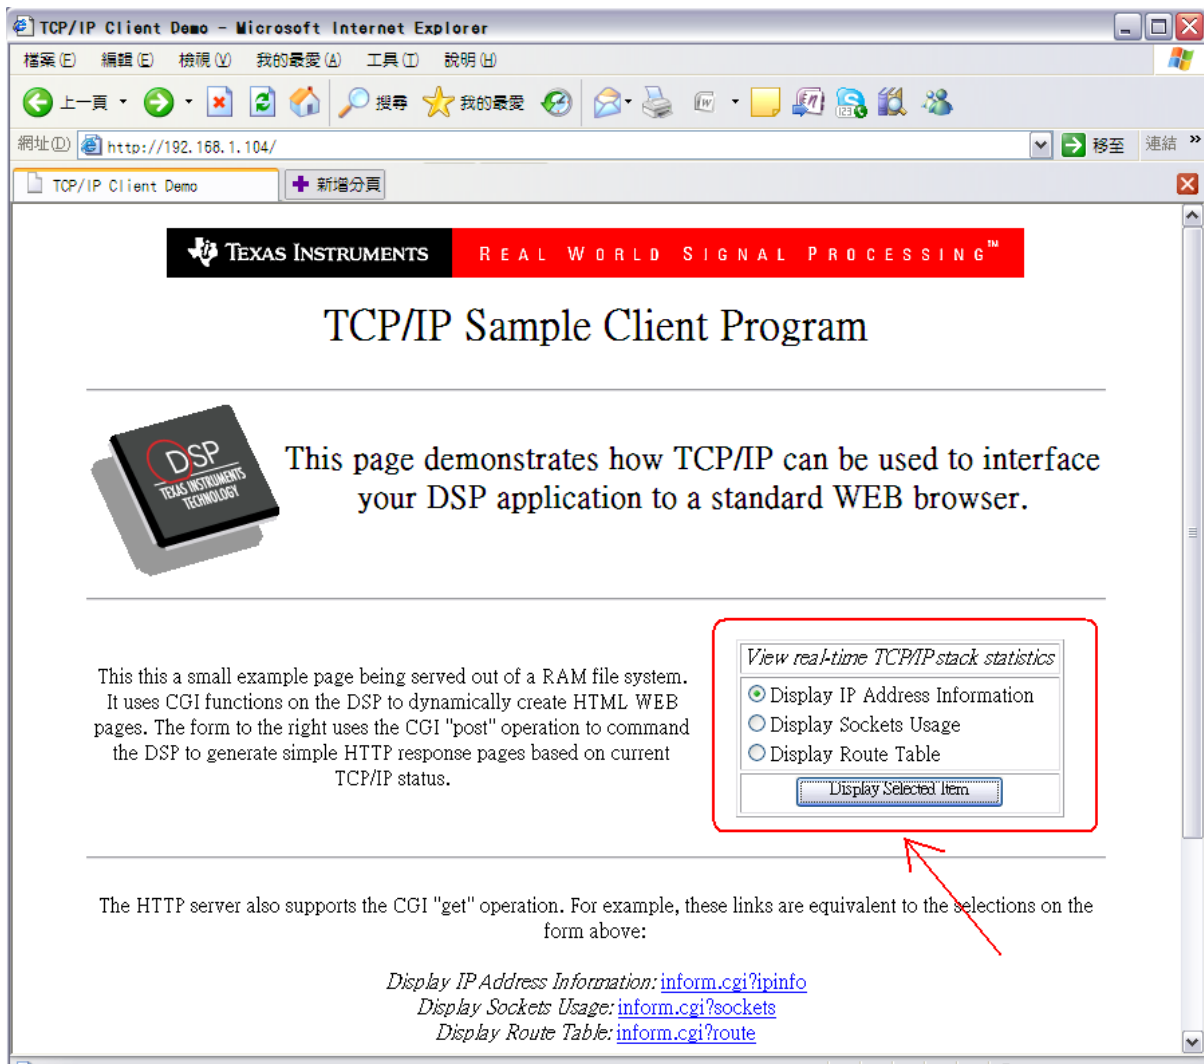
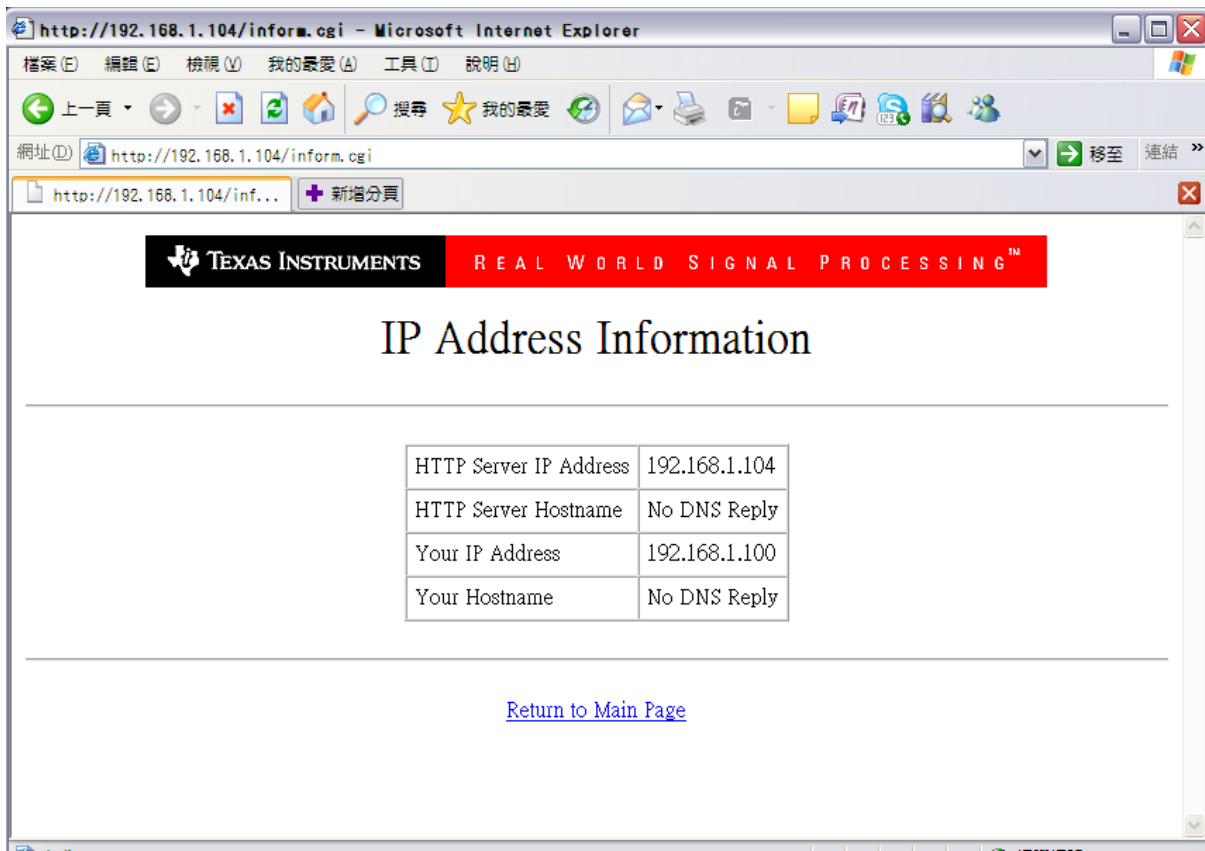

Figure 5-4 TCP/IP Demo Page
Figure 5-5 IP Address Information page
3. Check the result with a web browser. The URL of DSPs are <http://192.168.1.10X>, X=1~4. The result is shown in Figure 5-4 and Figure 5-5.